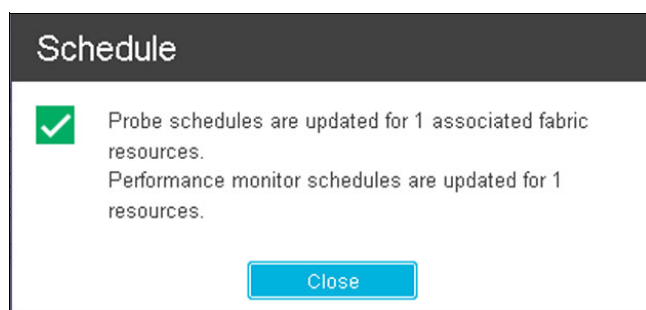

Figure 6-21 Performance monitoring scheduling confirmation
5. The result of the scheduling action appears, as shown in Figure 6-21.